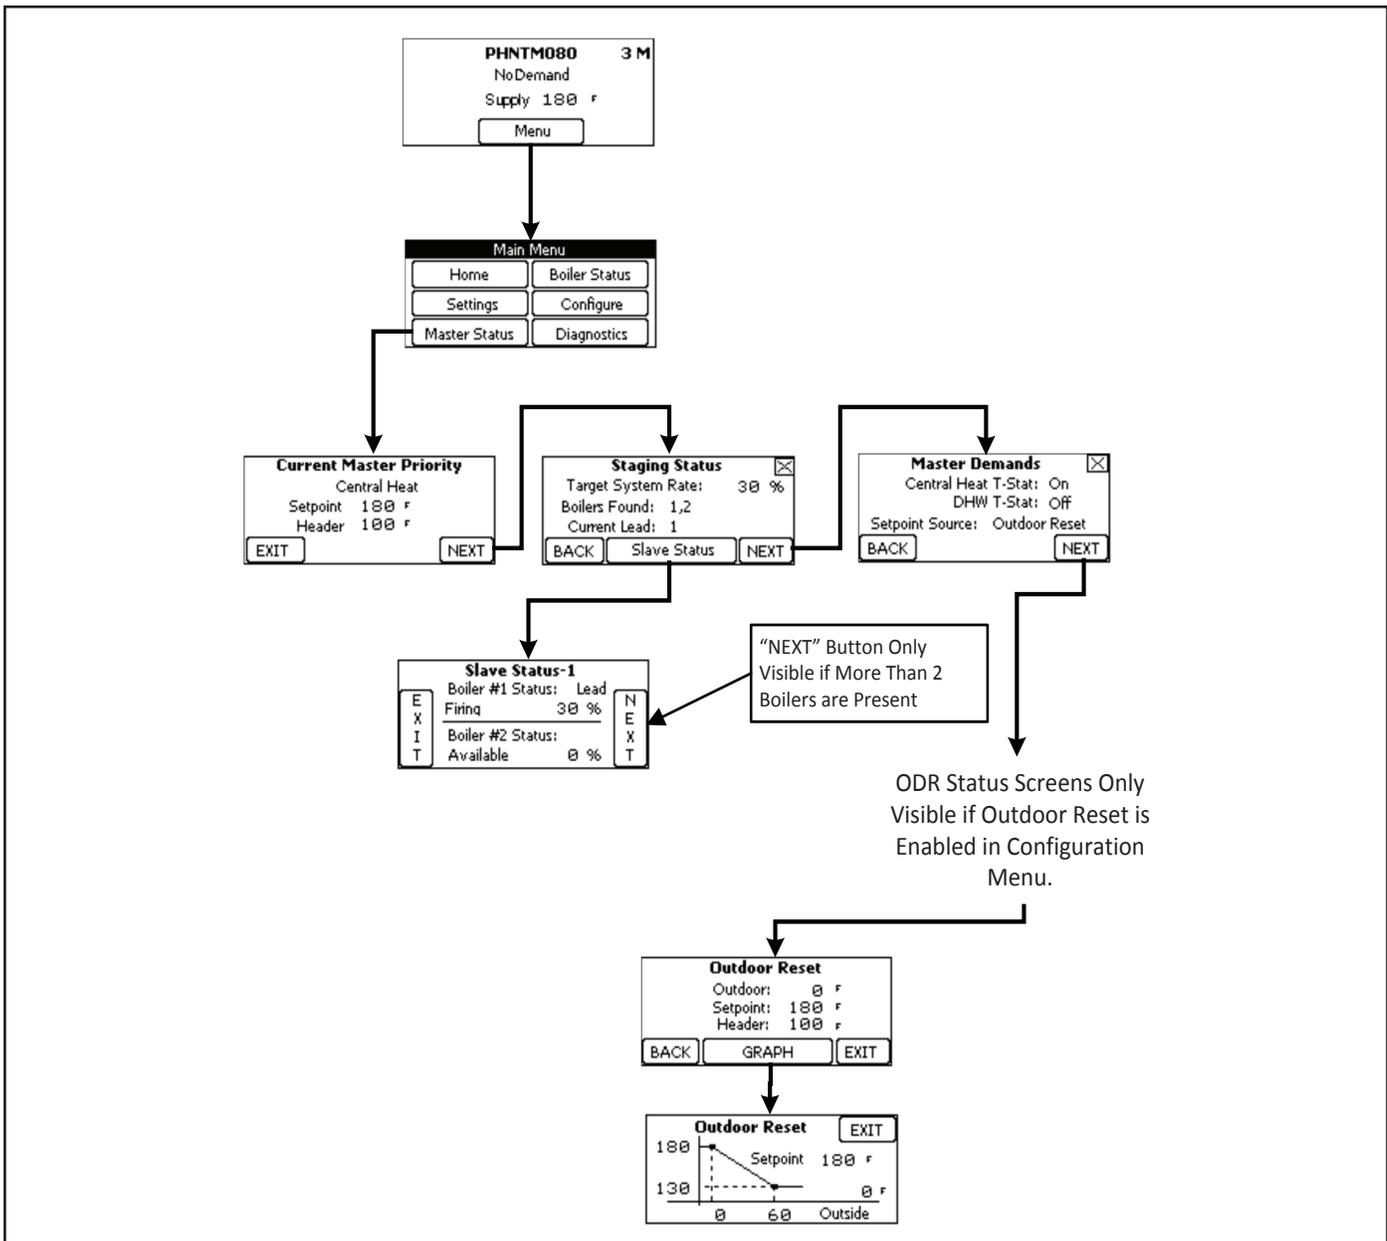

FIGURE 7.11b: MASTER STATUS MENU
- Master Status Menu (Figure 7.11b) – This menu is visible on the Master boiler only. It provides detailed information about the operation of the multiple boiler system.
- 3) Master Status Menu (Figure 7.11b):